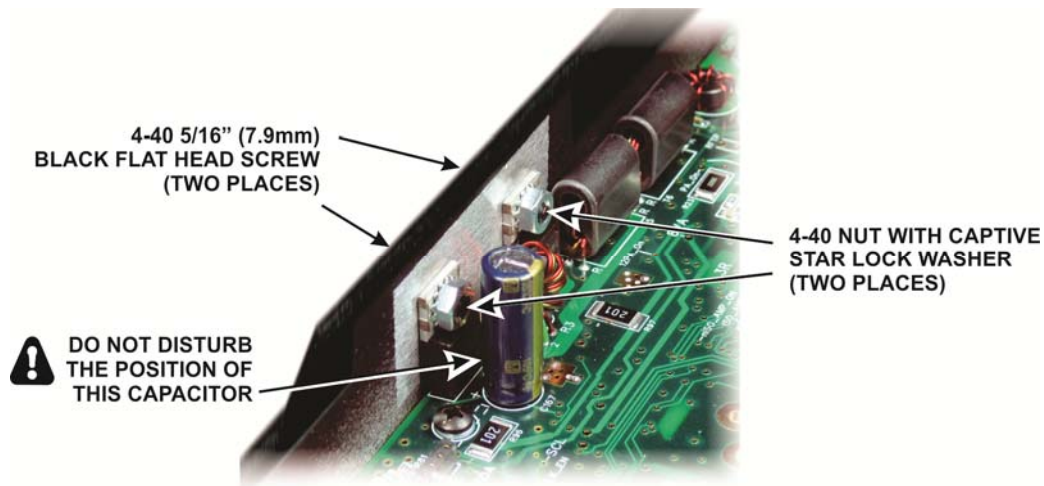

Figure 38. Securing the Tabs for Q6 and Q7 on the RF Board to the Bottom Cover.
- ☐ Secure the tabs for the two transistors to the bottom cover as shown in Figure 38. The metal tabs on these transistors are at ground potential so there is no need to insulate them from the bottom cover, nor is a heat transfer compound such as silicon grease needed.